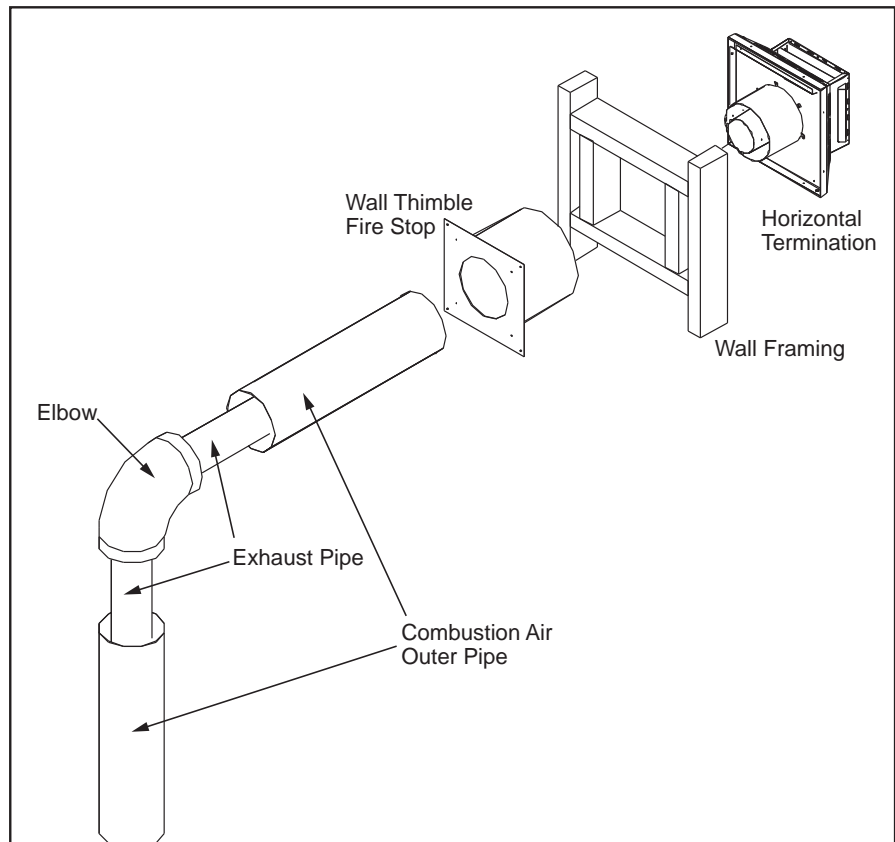

Figure 38: Horizontal Vent Termination
Step 3. With the pipe in the correct position and attached to the fireplace, mark the wall for a **10" (25.4 cm) x 10" (25.4 cm)** square hole (see Figure 38). The center of the hole should match the center line of the horizontal pipe. Cut and frame the hole in the exterior wall where the vent will be terminated. If the wall being penetrated is made of a non-combustible material (i.e. masonry or concrete) a **7" (17.8 cm)** hole is acceptable.
- Step 9.** Slip the storm collar over the pipe, and push it down to the top of the roof flashing as shown in Figure 38. Use the non-hardening sealant around the joint between the pipe and the storm collar.